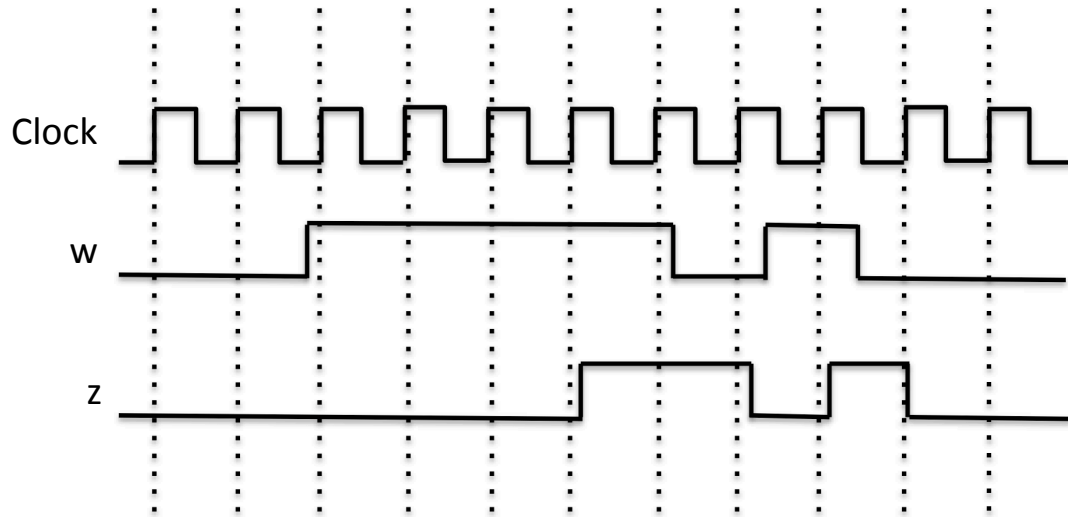
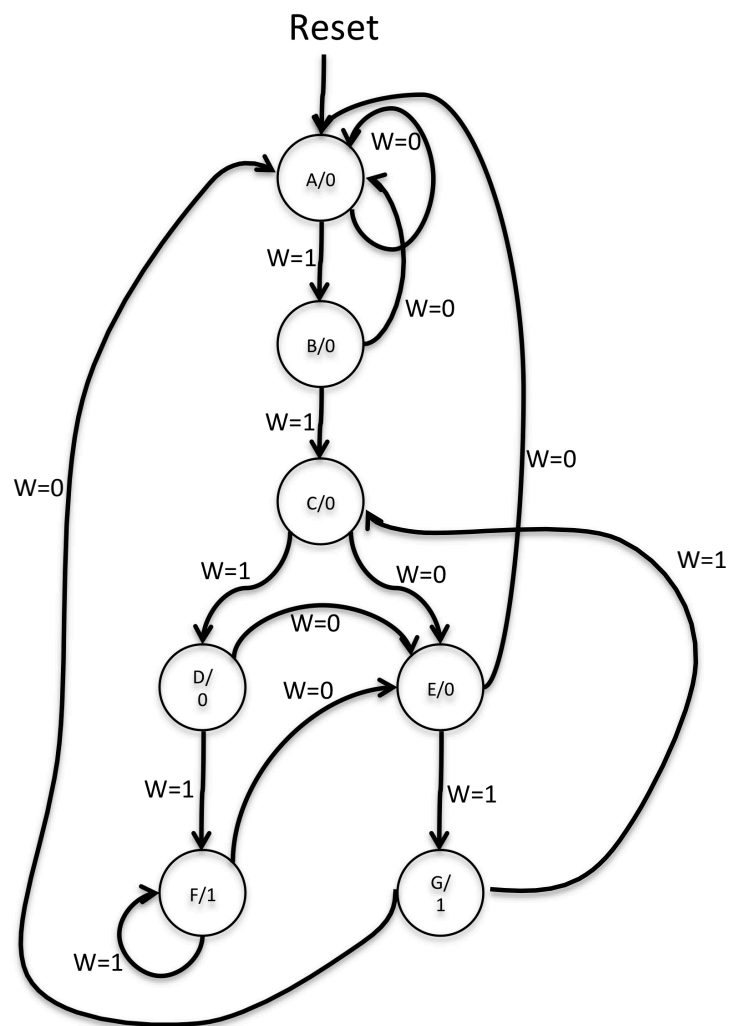

Figure 1: Required timing for the output z .
Figure 2: A state diagram for the FSM.
Given an input w and an output z , the output z is set to 1 Whenever $w = 1$ for four consecutive clock pulses, or when the most recent sequence on w was 1101 for the last four clock pulses. In all other cases, $z = 0$. Overlapping sequences are allowed, so that if $w = 1$ for five consecutive clock pulses the output z will be equal to 1 after both the fourth and fifth pulse. Figure 1 illustrates the required relationship between w and z . A state diagram for this FSM is shown in Figure 2.
2. Before modifying the Logisim starter circuit, assign flip-flop values to each of the states in Figure 2 and create a state table that illustrates the state transitions in response to the input signal w .